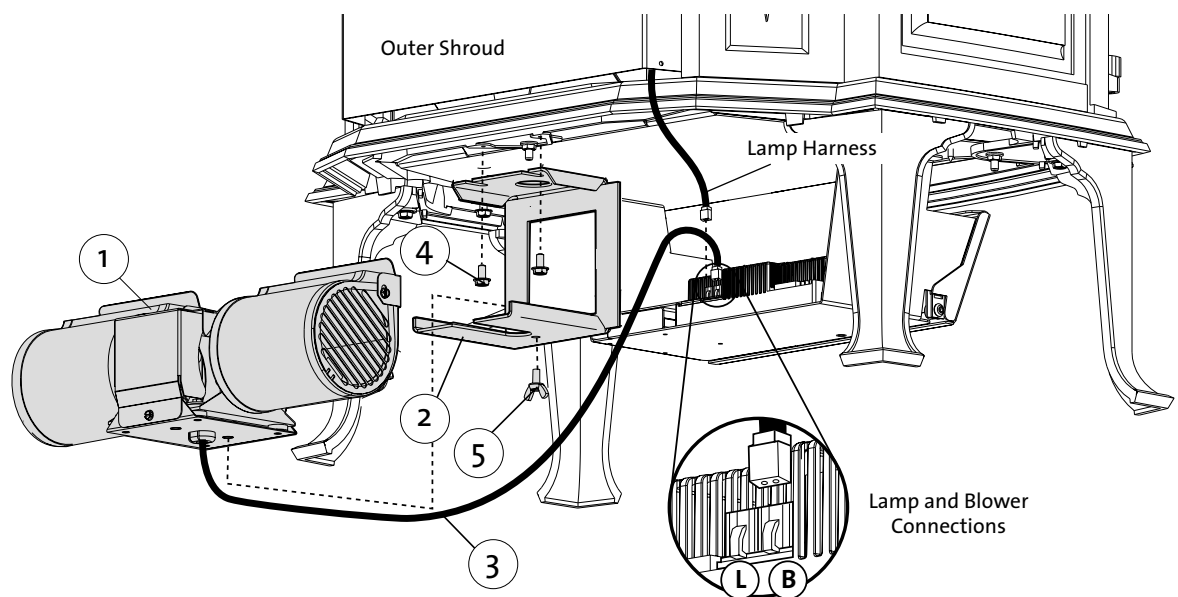

Figure 46. 157470 Blower Kit Components used for GF 400 DV IPI Sebago.
2. Orient the Blower Bracket (fig. 46, #2) as shown and securely attach it to the stove using the two M6 flange head hex bolts (#4).